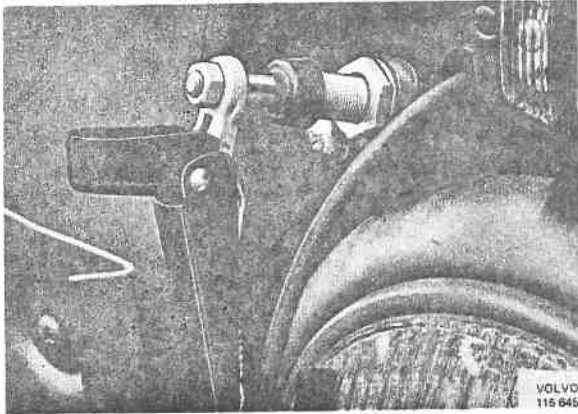

Fig. 36-21. Removing the wiper arm
2. Bend up the protection and remove the nut as well as the wiper arm from the shaft, Fig. 36-21.